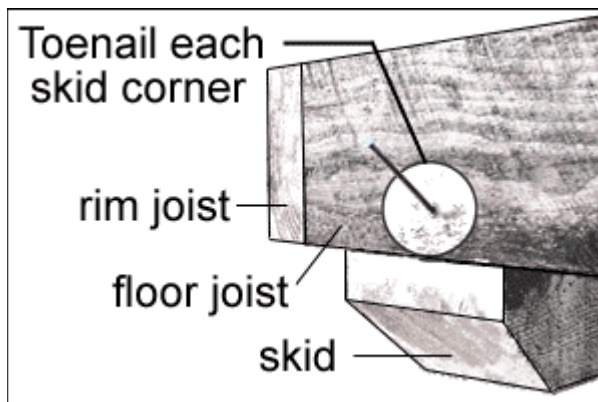

Figure 3
Step 4. Tack in joists to the skids on each corner with 2 nails. The flexibility will allow for adjusting the frame. Figure 3.